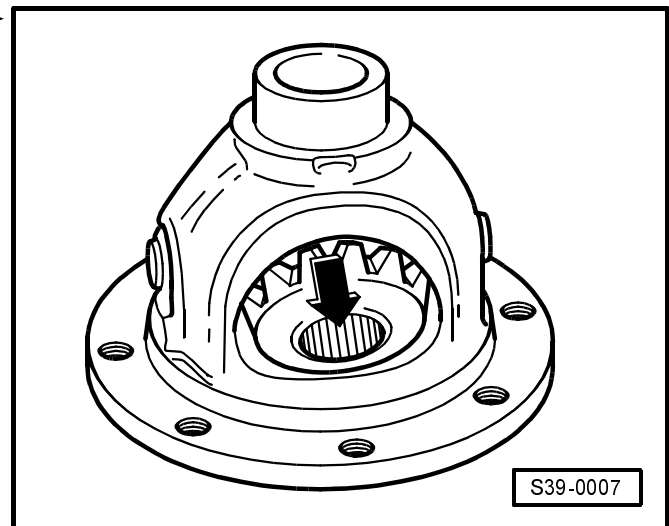

Fig. 11: Press on the differential bevel gear shaft
- pressing on ⇒ Fig. 11 in **39-2** page 7
- Slide the differential bevel gears onto the differential bevel gear shaft ⇒ Fig. 11 in **39-2** page 7.